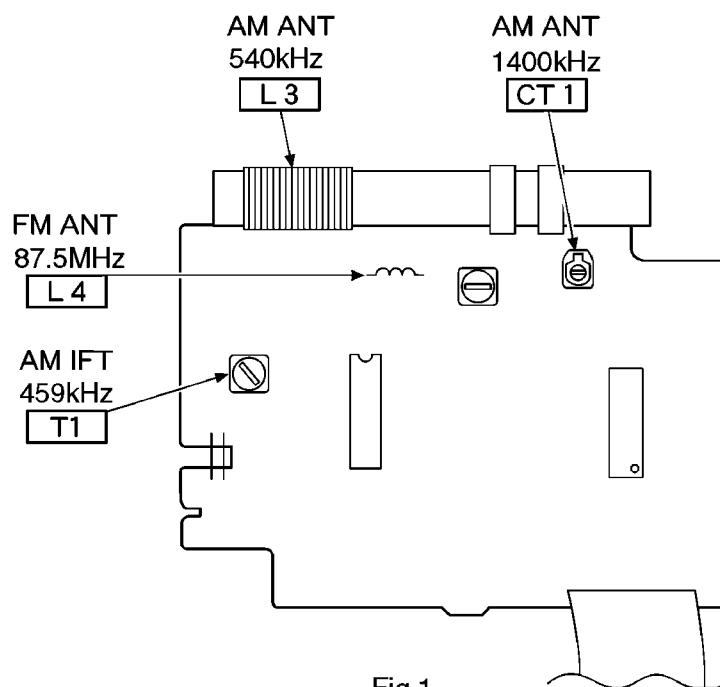

Fig 1
4. Adjust L3 so that the output reaches maximum. (Fig. 1)
6. Adjust CT1 so that the output reaches maximum. (Fig. 1)
3. Adjust L4 so that the output reaches maximum. (Fig. 1)